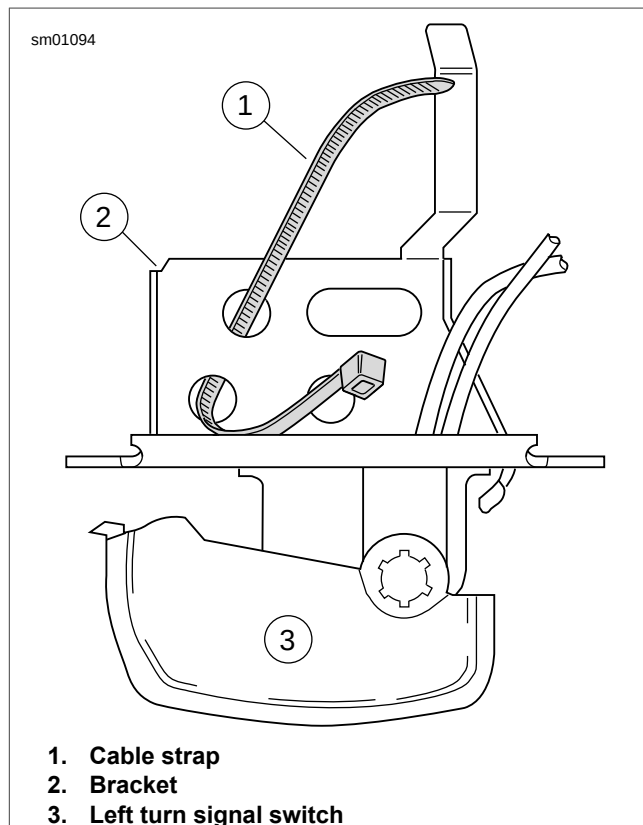

Figure 7-67. Insert Cable Strap in Switch Bracket
1. See Figure 7-67. Insert tapered end of **new** 177.8 mm (7.0 in) cable strap (1) into round hole in turn signal switch bracket (2) and then feed back through using the adjacent hole. Reserve the oblong hole for the bracket screw.